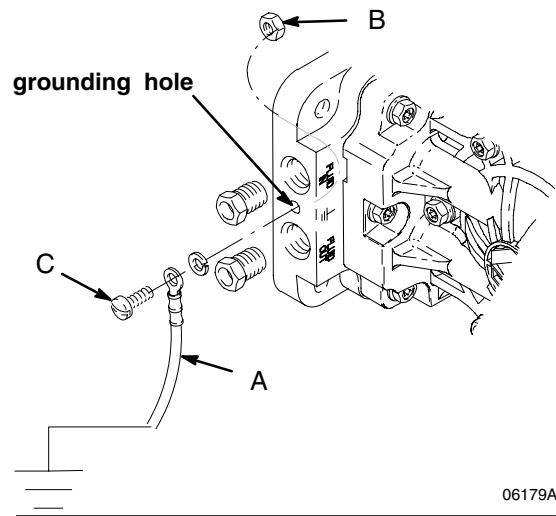

Fig. 1
The *polypropylene and PVDF pumps* are **not** conductive. When you pump conductive flammable fluids, **always** ground the entire fluid system by making sure the fluid has an electrical path to a true earth ground. See Fig. 1. **Never** use a polypropylene or PVDF pump with non-conductive flammable fluids as specified by your local fire protection code. Consult your fluid supplier to determine the conductivity or resistivity of your fluid.
Pump: Connect a ground wire (A) and clamp, Part No. 222011. See Fig. 1. The pump grounding locations are on the manifold between the inlet and outlet ports. Use the nut (B) and bolt (C) that are provided with the pump, and install as follows: